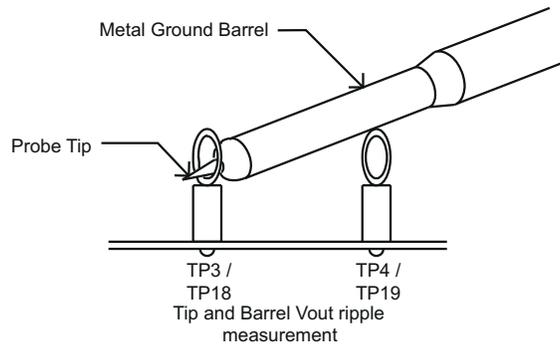

Figure 4-2. Output Ripple Measurement – Tip and Barrel Using TP3 and TP4 or TP18 and TP19
The TPS54291EVM-431 provides two test points for measuring the voltage generated by the module. This allows the user to measure the actual module output voltage without losses from output cables and connector losses. All output voltage measurements should be made between TP18 and TP19. To use TP18 and TP19, connect a voltmeter positive terminal to TP18 and negative terminal to TP19. For output ripple measurements, TP18 and TP19 allow a user to limit the ground loop area by using the tip and barrel measurement technique shown in Figure 4-2. All output ripple measurements should be made using the tip and barrel measurement. Even this tip and barrel measurement technique increases the measured switch edge noise. For improved output ripple measurement, measure the output ripple at the output capacitor (C17).
The input voltage source (V_{IN}) should be a 0-V to 15-V variable DC source capable of 2-A DC. Connect V_{IN} to J1 as shown in Figure 4-2.
TP3 and TP4 or TP18 and TP19 can be used to measure the output ripple voltages by placing the oscilloscope probe tip through TP3 or TP18 and holding the ground barrel to TP4 or TP19 as shown in Figure 4-2. For a hands free approach, the loop in TP4 or TP19 can be cut and opened to cradle the probe barrel. Using a leaded ground connection can induce additional noise due to the large ground loop area.
5. Connect an oscilloscope probe to TP3 and TP4 or TP18 and TP19 as shown in Figure 4-2.